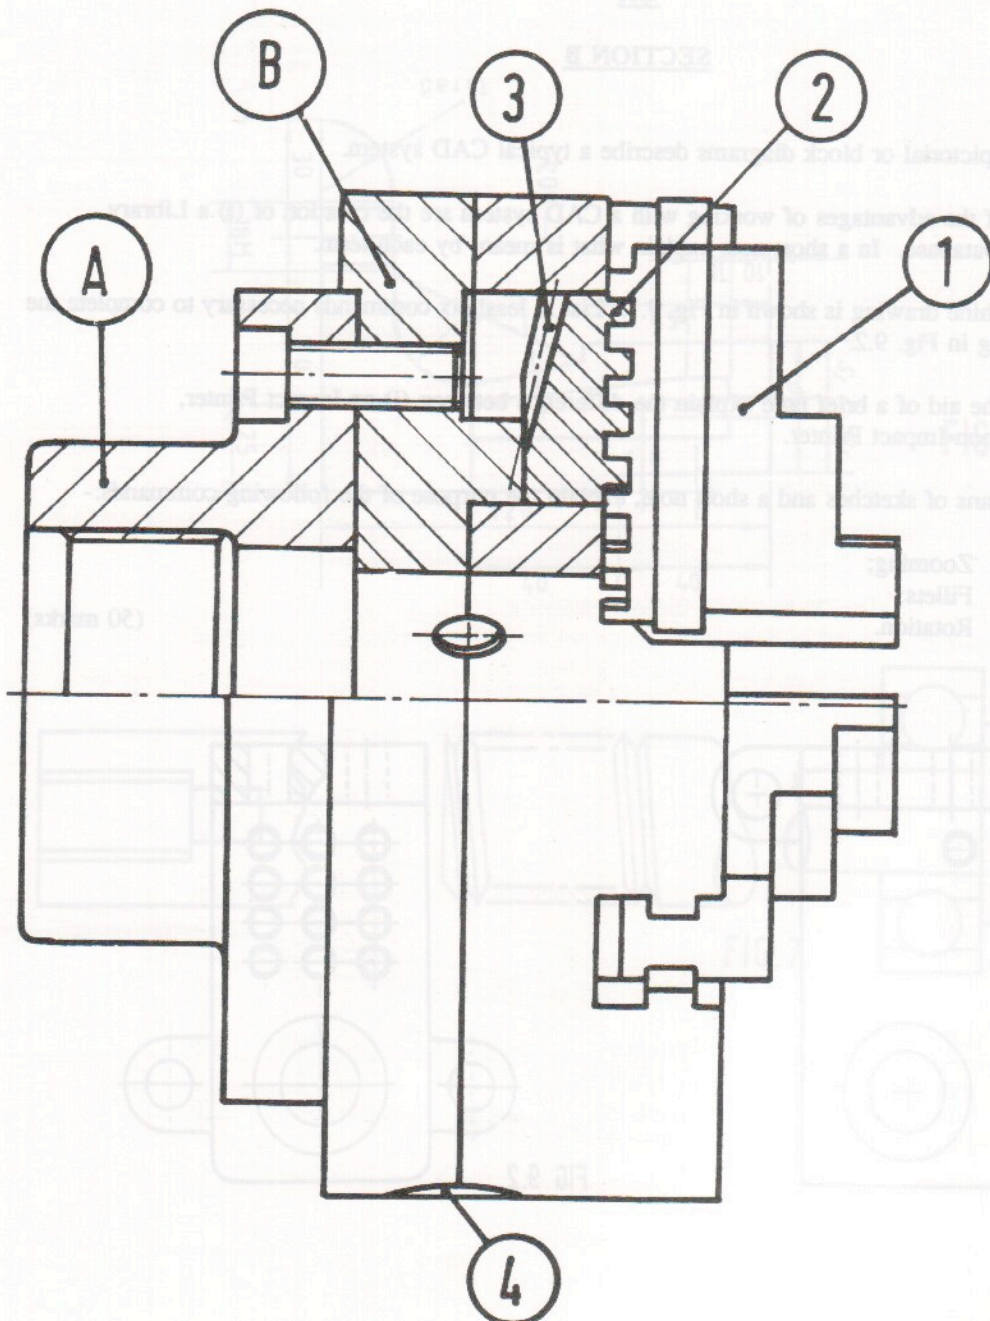

FIG. 6
- (b) (i) Identify the machine part shown in Fig. 6.